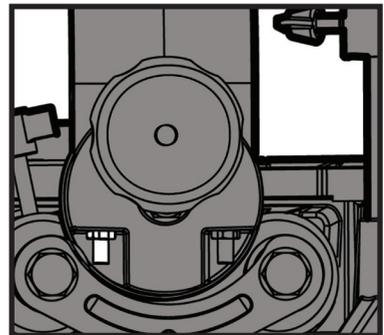

Fig 24
- b) To adjust, loosen the 45° adjusting screw locknut and using a suitable hex key turn the adjusting screw clockwise or anti-clockwise until the correct alignment is achieved. (Fig 24)